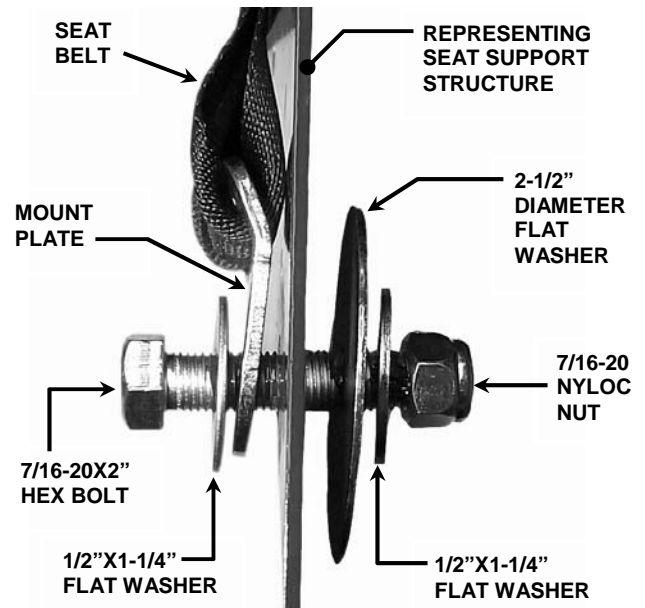

FIGURE 1.3
IMPORTANT! The large 2 1/2" diameter flat washers must be installed on the inside surface of the seat support structure. See Figure 1.3.
3. Place (1) 1/2" x 1 1/4" diameter flat washer on (1) 7/16-20 x 2" bolt. Insert bolt with washer into seat belt mounting plate. See Figure 1.3.